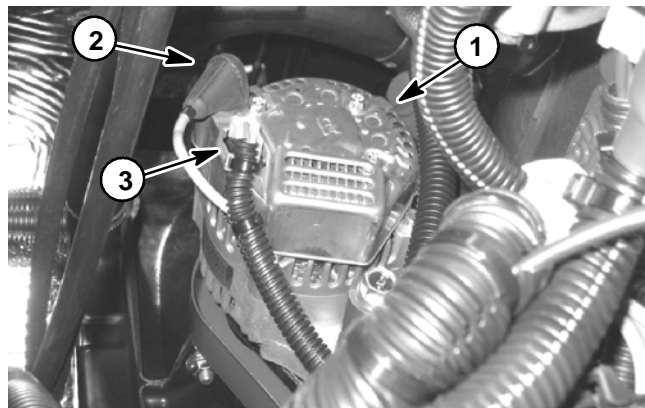

Figure 13
F. Remove cable from alternator stud and disconnect wire harness connector from alternator (Fig. 13).